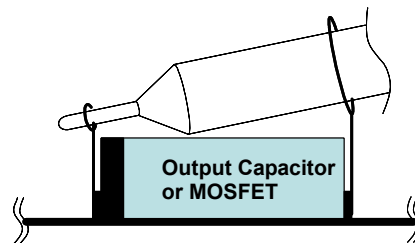
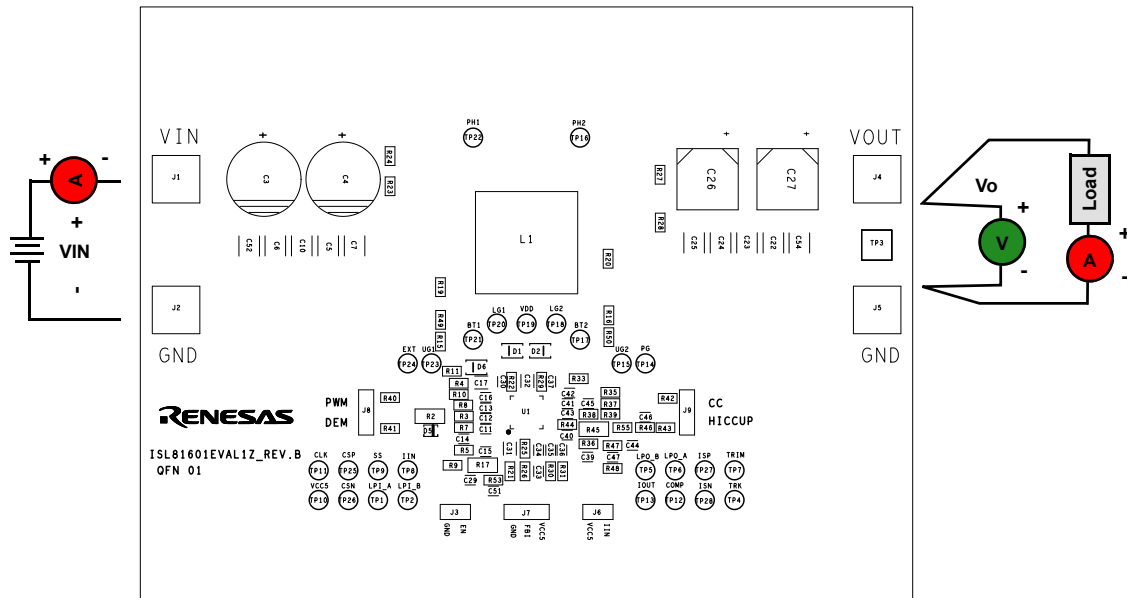

Figure 3. Proper Probe Setup to Measure Output Ripple and Phase Node Ringing
Figure 4. Proper Test Setup
As shown in Figure 4 on page 6, 9V to 60V VIN is supplied to J1 (+) and J2 (-). The regulated 12V output on J4 (+) and J5 (-) can supply up to 10A to the load. Due to the high power efficiency, the evaluation board can run at 10A continuously without airflow at room temperature ambient conditions.
- (1) Jumper J8 provides the option to select PWM or DEM. Jumper J9 provides the option to select constant current limit or HICCUP. Refer to Table 2 for the operating options. Ensure that the circuit is correctly connected to the supply and electronic loads before applying any power. Refer to Figure 4 on page 6 for proper setup.
- (2) Turn on the power supply.
- (3) Adjust input voltage V_{IN} within the specified range and observe the output voltage. The output voltage variation should be within 3%.
- (4) Adjust the load current within the specified range and observe the output voltage. The output voltage variation should be within 3%.
- (5) Use an oscilloscope to observe output voltage ripple and phase node ringing. For accurate measurement, refer to Figure 3 for proper test setup.